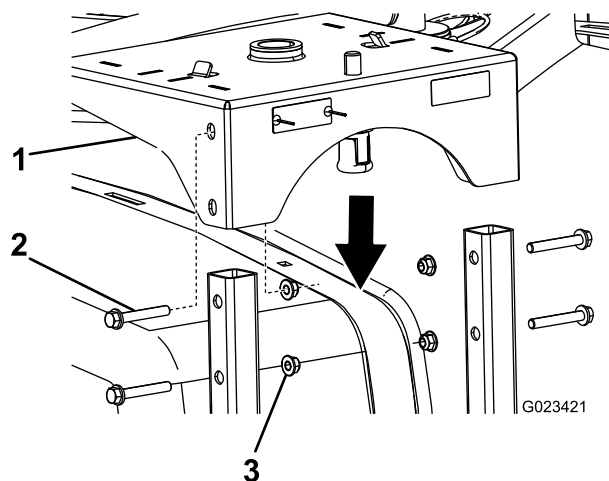

Figure 3
3. Lower the hose-reel base onto the hose-reel frames, and secure them with 4 long bolts (3/8 inch) and 4 flange nuts (3/8 inch) as shown in Figure 3.